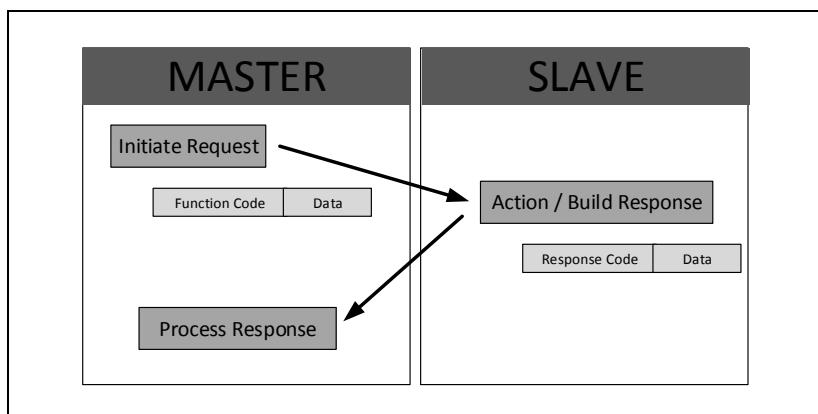

Figure 8-1. RTU Master/RTU Slave Modbus Architecture
- **Modbus is a Simple Protocol** – Modbus is quite easy to understand (see Figure 8-1). Its primary purpose is to simply move data between an RTU master device (a *client* in Modbus TCP) and one or more RTU slave devices (*servers* in the Modbus TCP world). There are only two kinds of data to move, register data, and coil data. Registers are 16-bit unsigned integers. Coils are single bits.